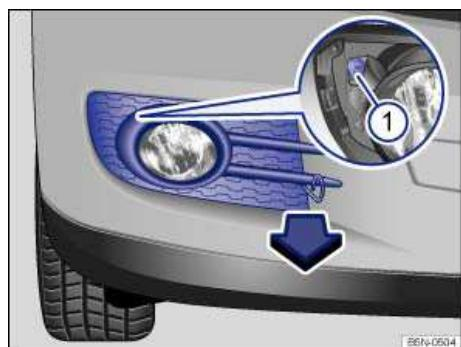
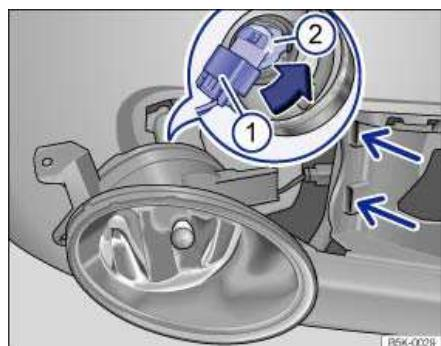

Fig. 206 In right front bumper: Removing light assembly.
Fig. 207 Replacing light bulb in headlight.
⇒ fig. 206. Pull the cover upward in the direction of the arrow.
3. Remove the screw (1) using the flat blade of the screwdriver in the vehicle tool kit
5. Release the connector ⇒ fig. 207 (1) and disconnect it.
6. Turn the bulb holder (2) counterclockwise in the direction of the arrow until it stops and remove it toward the rear with the bulb.
9. Connect the connector (1) on the bulb holder (2). You must hear the connector click into place.
11. Tighten the screw ⇒ fig. 206 (1) with the screwdriver.
12. Install cover in the bumper ⇒ fig. 206.